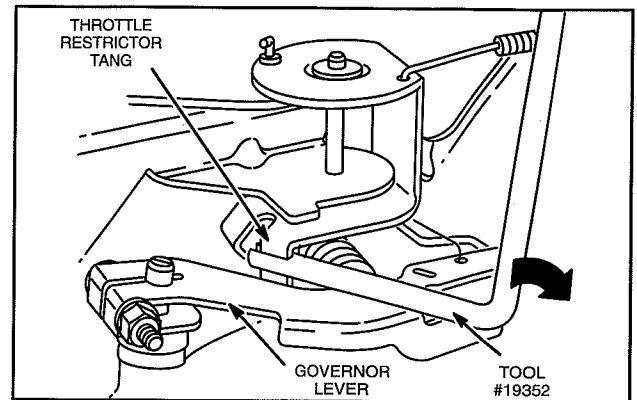

Fig. 146 – Adjust Throttle Restrictor
10. With equipment control lever in SLOW position and engine running at governed idle RPM, use tang bender, Tool #19352, and bend throttle restrictor tang so that tang just contacts governor lever. Fig. 146.